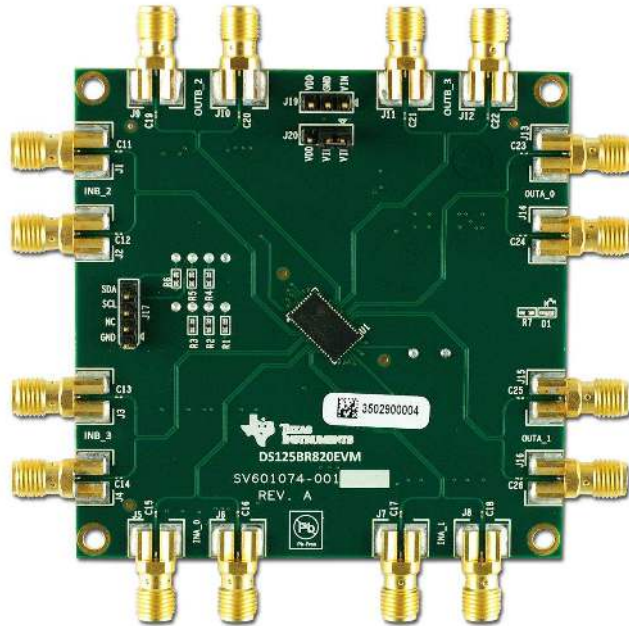

Figure 1-1. DS125BR820EVM Front
- For 3.3 V mode: V_{IH} tied to V_{IN} (see Figure 1-1)
- For 2.5 V mode: V_{IH} tied to V_{DD} (see Figure 1-1)